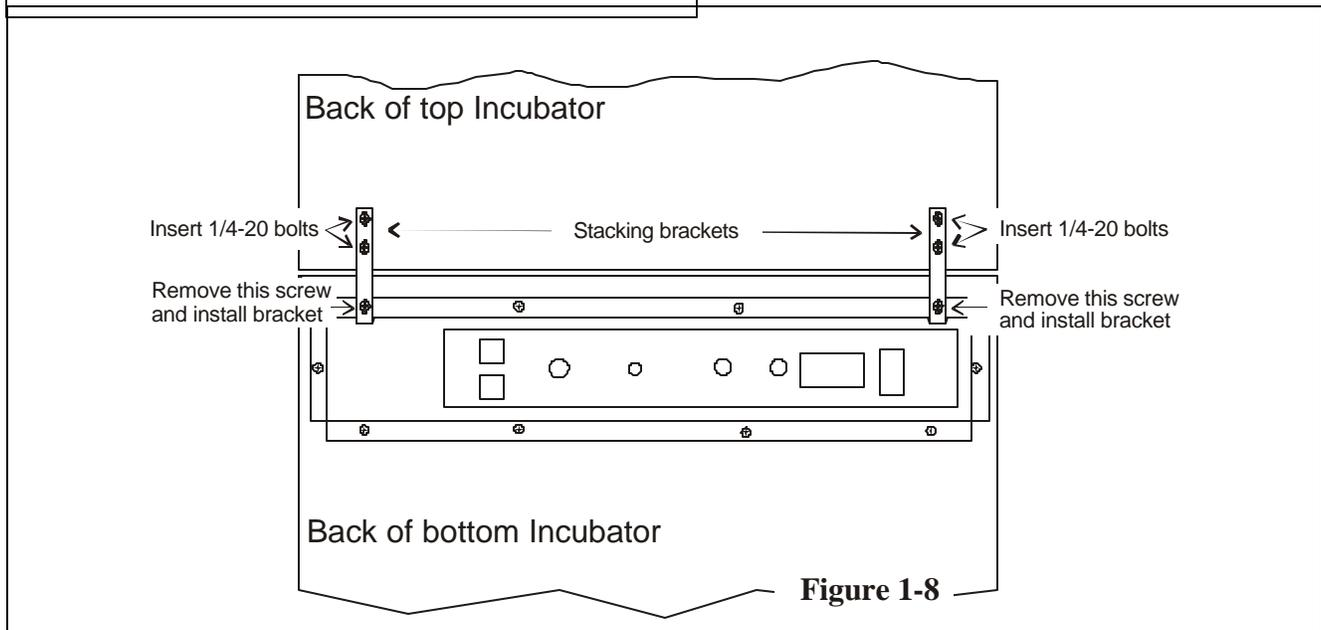

Figure 1-8
- Remove and save the two screws from the back of the control panel on the *bottom* unit as identified in Figure 1.8.